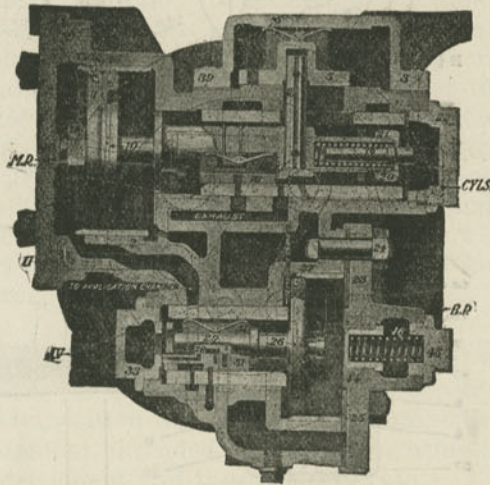

Fig. 439. No. 6 Distributing Valve.
A. As shown in Figs. 439, 440 and 441, it is the principal part of the regular No. 6 "ET" locomotive brake equipment. It supplies all brake cylinders. There is an equalizing and an application portion; the first corresponding to a triple valve and containing brake pipe